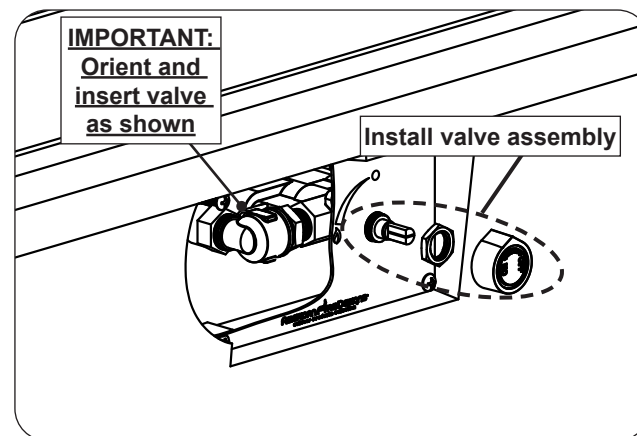

Fig. 27-3 Install valve assembly
5. Insert the valve assembly through the plate (in the base). Replace the nut onto the valve stem, and tighten. Reinstall the control knob. See Fig. 27-3.